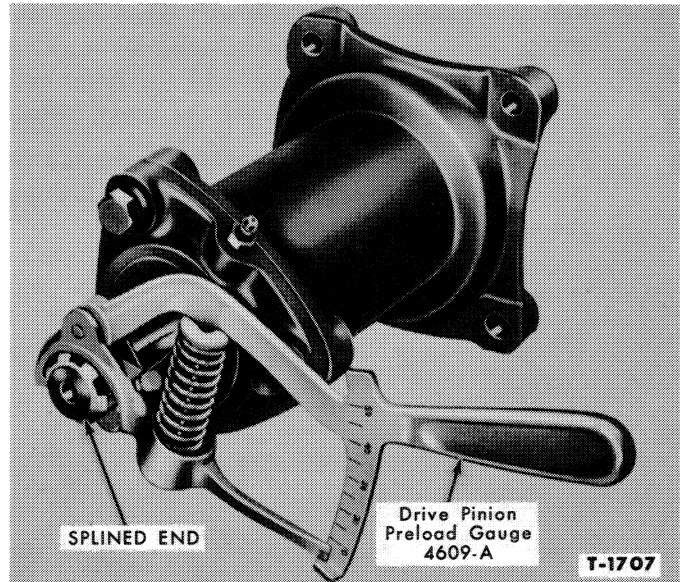

Figure 8—Checking Power Take-Off Conversion Preload
3. Use Gauge 4609-A on the splined end of the shaft, Figure 8, and check the preload. Turn the shaft with the gauge and note the reading. With the shaft turning, the gauge should read 5-15 in. lbs. Remove shims to increase, or add shims to decrease the preload. The shims are available